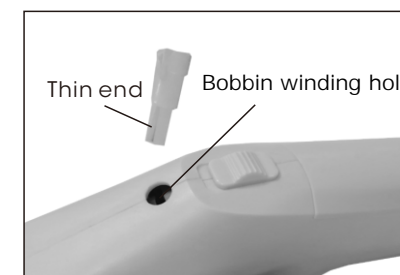

Fig. 2
2. Align the thin end slot of the pin with the two positioning ribs of the bobbin winding hole on top of the machine, and insert the pin downward (Fig. 2).